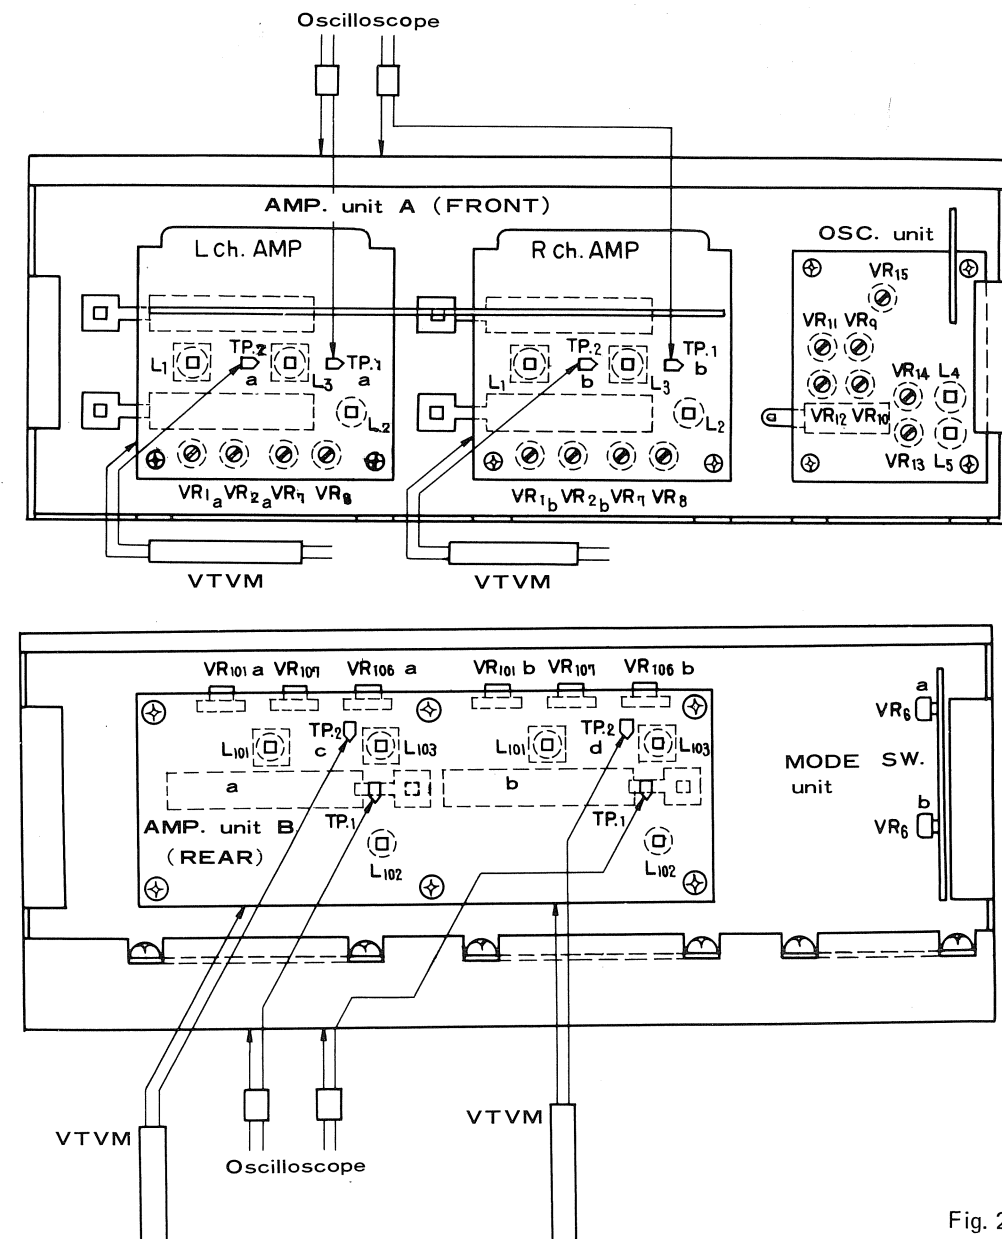

Fig. 27
1. Connect measuring instruments as shown in Fig. 27.
3. Amplitude at TP1 (Fig. 27) should be 3V or less. Adjust by L3 (front) and L103 (rear).